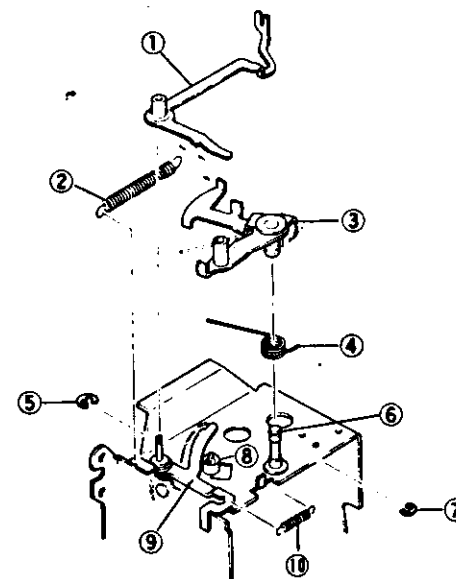

Fig. 15
1. Mirror box (see Fig. 15, 16)